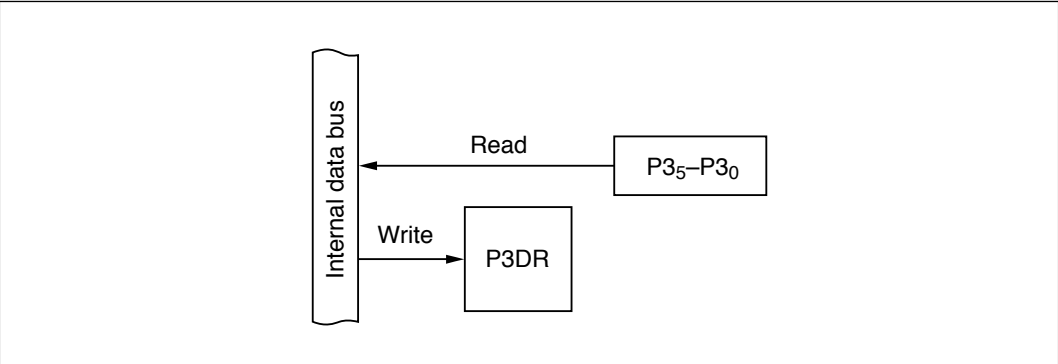

Figure 9-17 Input Port (Modes 1 to 7)
- (1) Input Port (Modes 1 to 7):** Figure 9-17 shows a block diagram illustrating the general-purpose input function. Table 9-11 indicates register read/write data. Values written in the port 3 data register (P3DR) have no effect on general-purpose input lines. When read, P3DR returns the value at the pin.